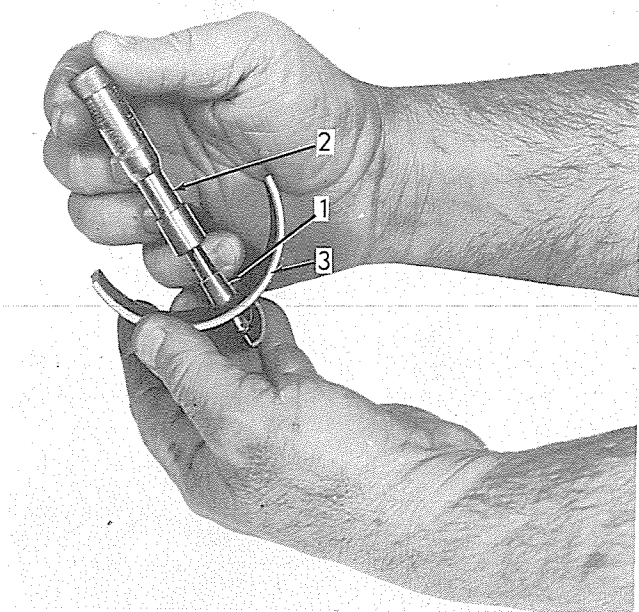

Fig. 8 — Measuring Bearing Shell Thickness
5. Measure bearing shells for wear as shown in Fig. 8; standard connecting rod bearings have a specified thickness of .12475" - .12525"; bearing shells that measure less than .123" at the center should be discarded and new ones installed.